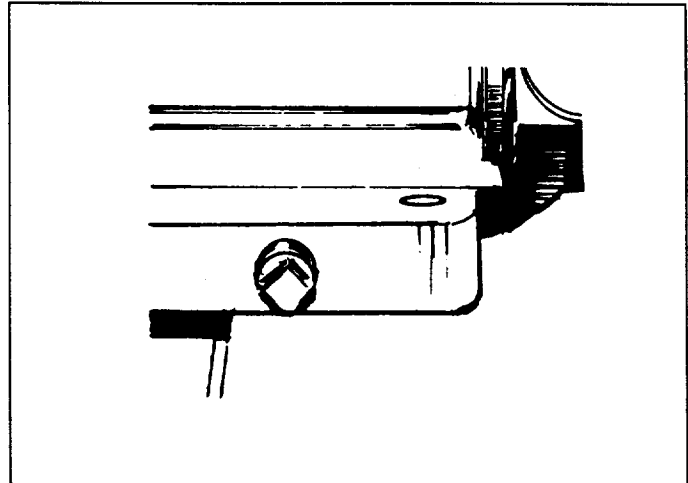

FIG. 7
- Clean area around oil drain plug, remove plug (Fig. 7) and drain oil completely into a suitable container.